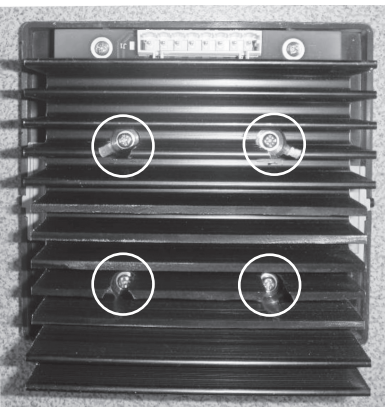

Fig.24
2.5.5 Remove the screws as Fig.24 to remove the heat sink.